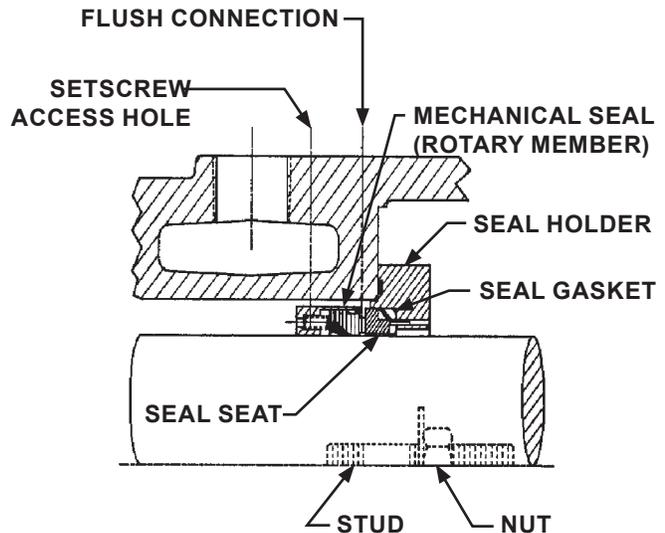

FIGURE 11
3. PTFE Wedge (Figure 11, page 8)